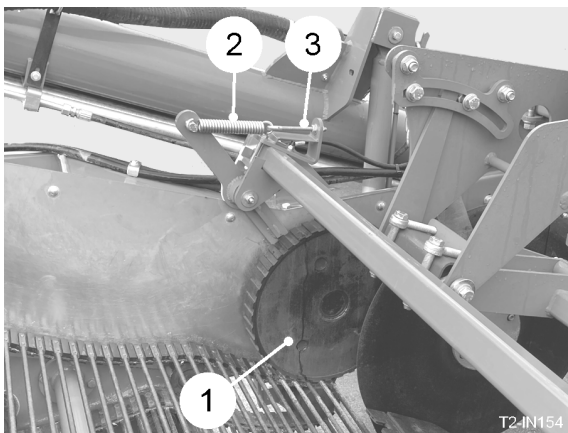

Fig 7
Haulm intake rollers (item 1, fig. 7) are fitted for two reasons. The primary reason is to draw in loose haulm and trash from the sides of the ridges and feed it onto the digger web, thus preventing it from building up on the leading edges of the web sides or between the centre disc coulters. The second function is to prevent potatoes from rolling out of the front of the digger web between the discs coulters and the web sides. Depending on the width of the digger web and the row width configuration to be lifted, the haulm roller build will vary. The rollers are spring loaded onto the digger web bars. The outer roller assemblies are fitted with tension springs (item 2, fig. 7), and are tensioned by the adjusters (item 3, fig. 7). The centre rollers (if fitted) are mounted on a spring-loaded arm and are tensioned similarly with a coil spring and threaded adjuster. Alternatively, rubber deflectors may be fitted between the centre disc units.